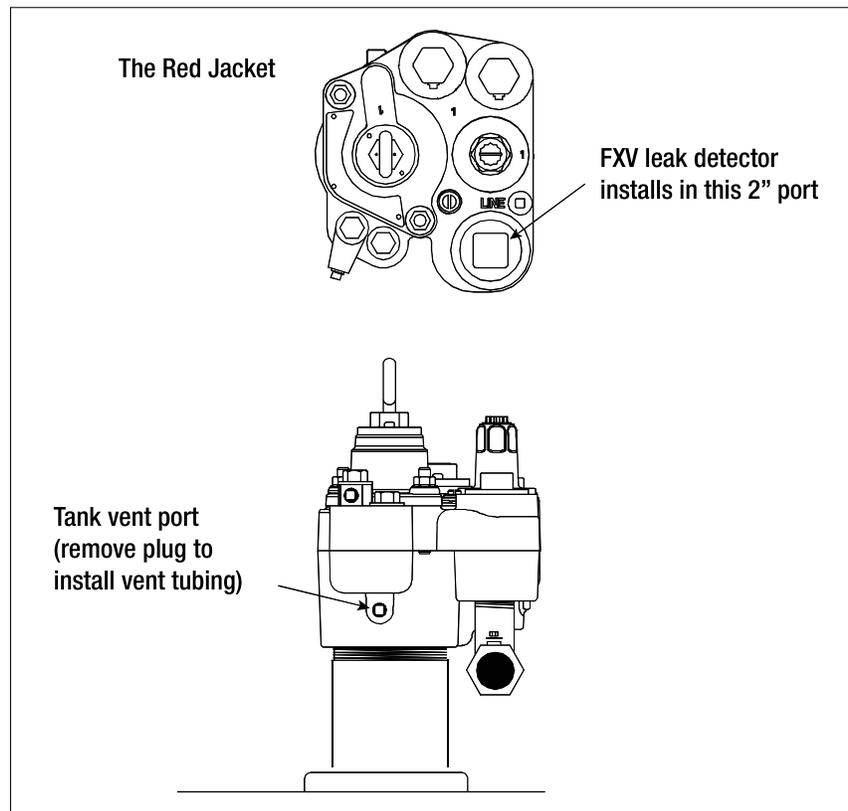
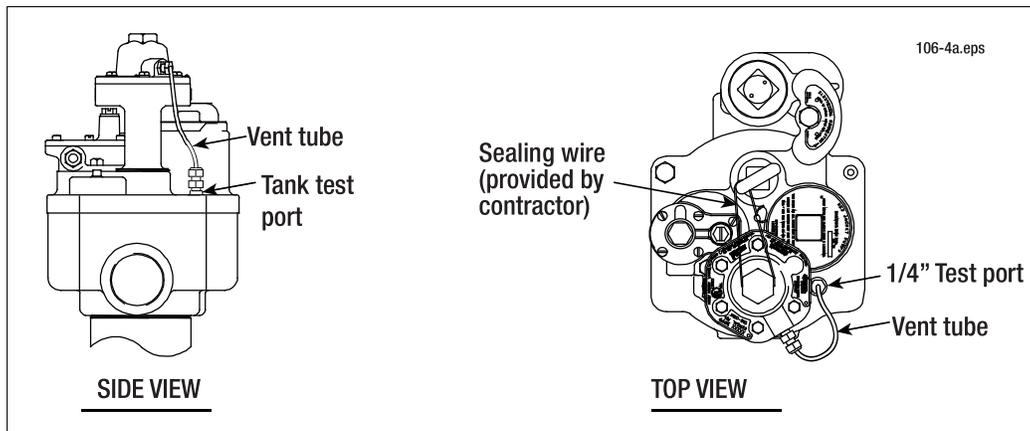

Figure 7. FXV Installation ports in The Red Jacket
Figure 9. Installing FXV in the Standard pump
1. Remove the two-inch plug from the top of the Standard pump (see Figure 7 for The Red Jacket leak detector installation ports and see Figure 9 for the Standard pump). If the two-inch plug is found to be so tight that cannot be removed, the submersible should be removed from the tank and placed in a vise. Remove the Functional Element assembly next to the pipe plug. The plug should then come out readily if a large pipe wrench is used. Replace the Functional Element assembly securely and replace the pump in the tank. (See Step 3 before replacing pump).
- Remove 1/4-inch pipe plug from tank test port (on 6-inch Big-Flo applications, remove the 1/4-inch pipe plug from the riser/flange assembly, for The Red Jacket pumps, see Figure 7 and for the Standard pump see Figure 9).
- Remove 1/4 inch pipe plug from tank test port, see Figure 7 for The Red Jacket pump and Figure 9 for the Standard pump.
The top cover on the Red Jacket leak detector is designed to accommodate a sealing wire which can be used to discourage tampering of the unauthorized removal of leak detector. (see Figure 9).